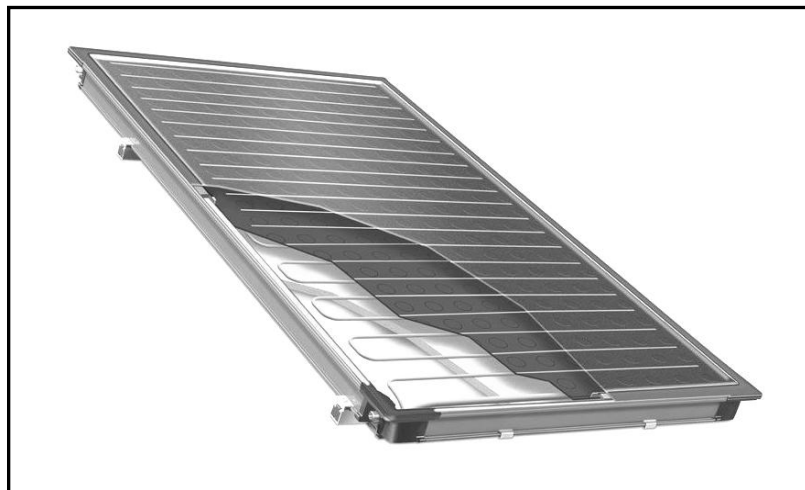

FIGURE 4.6
- 4.6 FIGURE 4.6 below shows a solar heating unit. (1)